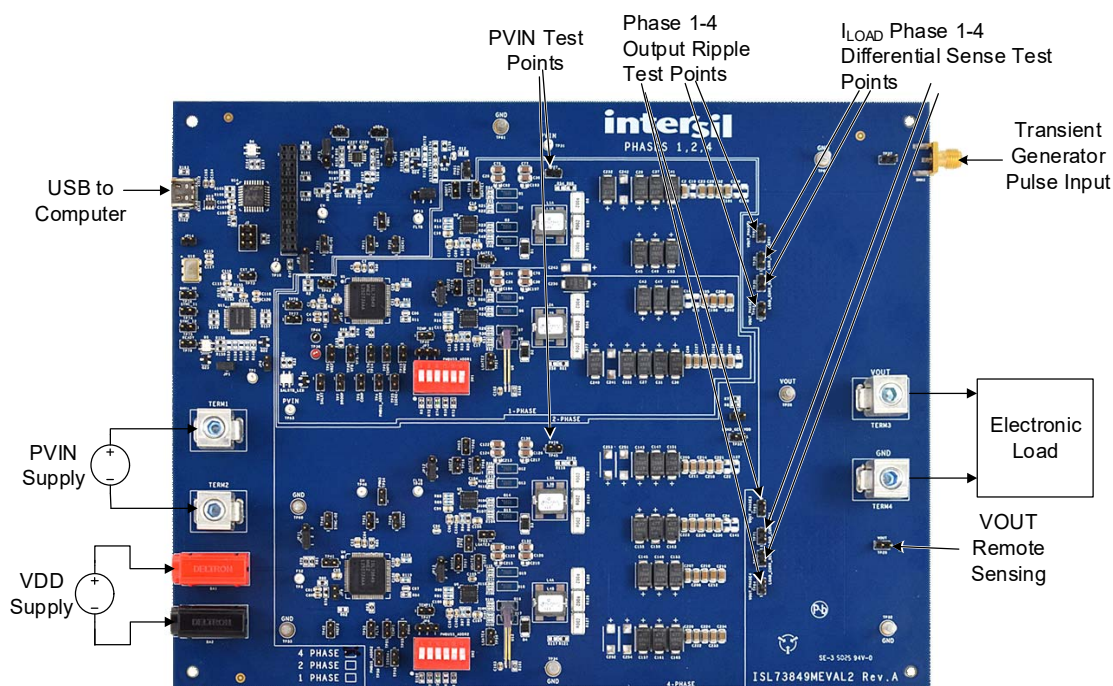

Figure 3. ISL73849MEVAL2Z4 Board Setup
7. Connect the provided USB to the computer and the board as shown in Figure 3.
8. Apply a 12V voltage supply to the PVIN metal banana plug connectors as shown in Figure 3. To monitor PVIN on the board, use TP27 or TP45. TP27 is closer to Phase 1 and 3, TP45 is closer to Phase 2 and 4.
9. Apply a voltage between 5V and 13.2V to the VDD banana connectors as shown in Figure 3.
10. If required, a resistor or electronic load can be connected to the VOUT metal banana plug connectors as shown in Figure 3. The output voltage regulation point can be monitored using the TP29 test jumper.